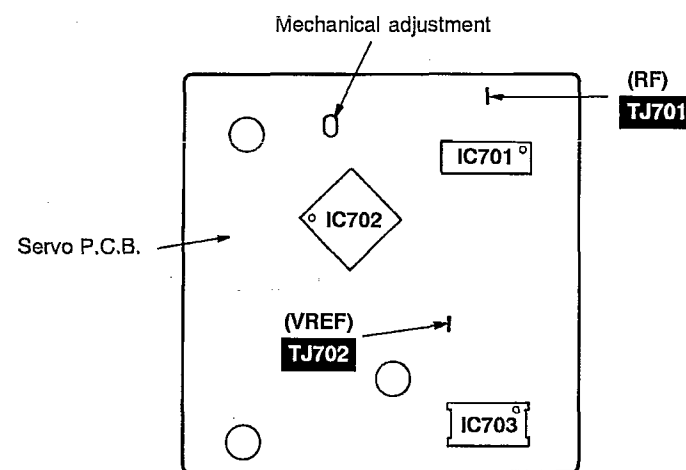

Fig. 2
1. Connect the oscilloscope's CH. 1 probe across **TJ701 (+)** and **TJ702 (VREF)** on the Servo P.C.B. (Shown in Fig. 2)